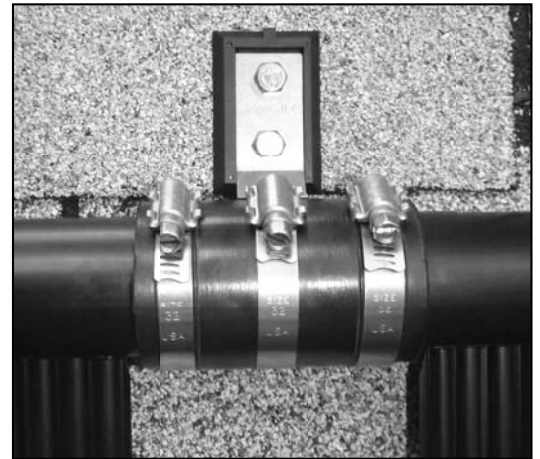

FIGURE 4
3. Loosely place another clamp over the open end of the hose before installing the next collector in the array. Refer to **Figure 4**.